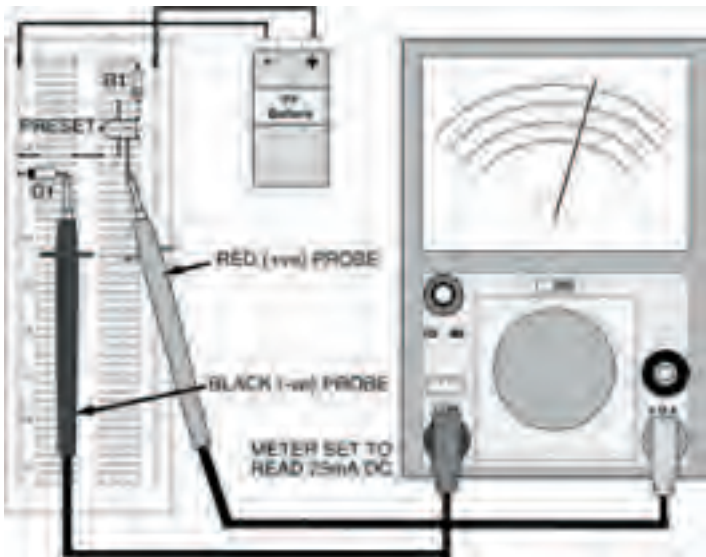

Figure 6.10 The same circuit, set up to measure the current through the diode
- 3) now set up the breadboard layout of Figure 6.10, to measure the current through the diode — the breadboard layout is designed so that all you have to do is take out a short length of single-strand connecting wire and change the position of the meter and its range. Record the value of the current at the voltage of step 2,